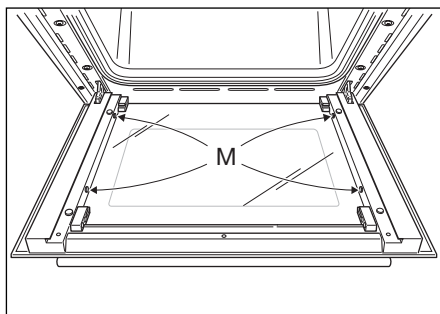

Fig.42a
- Check that the four rubber pads are in place ("M" in Fig. 42a).